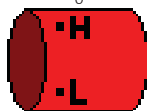

Fig. 19.1
- if the upper level probe detects a maximum amount of water, the icon will appear red (Fig. 19.1);